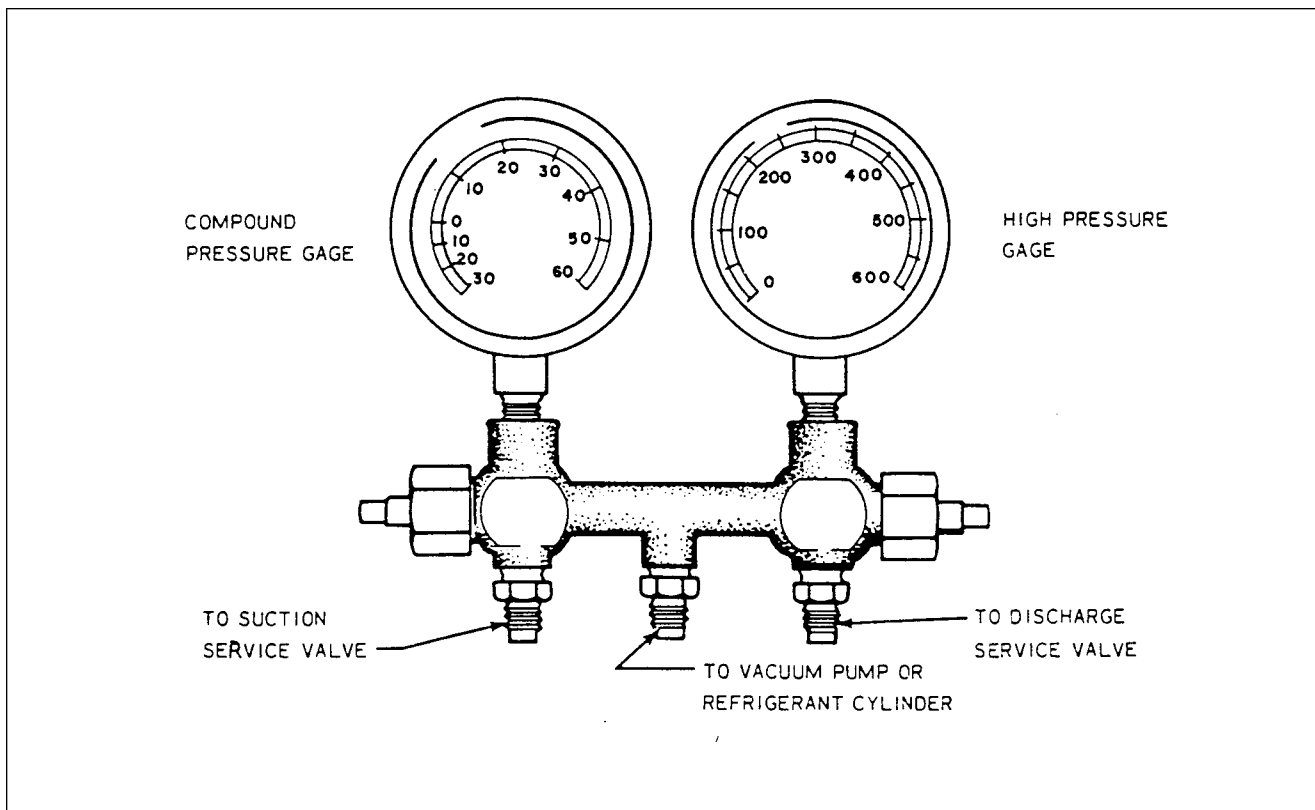

Figure 21-4. Test Gauge and Manifold Set
Proper air conditioning system testing and diagnosis requires that a manifold gauge set be attached to the system. This set consists of two gauges mounted to a manifold. One gauge is a high pressure gauge used on discharge side of system. The other is a low pressure gauge used on suction side of system. The manifold is a device having fittings for both gauges and connection hoses with provisions for controlling flow of refrigerant through manifold. See figures 21-4 and 21-5.
Turning hand valve in counterclockwise direction, opens system to middle service port of manifold set. This valve allows refrigerant out of or into system. Refer to figures 21-4 and 21-5.
2. Close high and low manifold hand valves. (Refer to figures 21-4 and 21-5.)